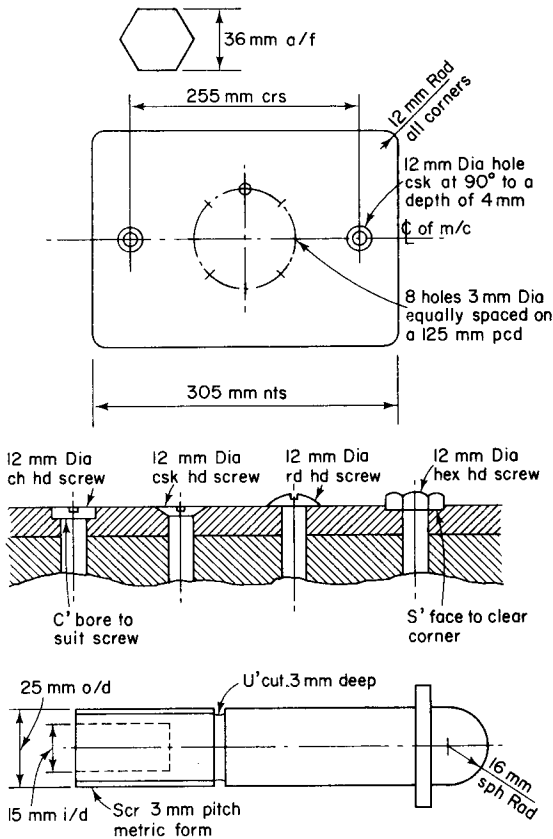

Fig. 3.47 Use of abbreviations on drawings
**Abbreviations shown on drawings.** Abbreviations are frequently used on drawings. Those most commonly used are shown opposite and the way in which they are used is shown in Fig. 3.47: